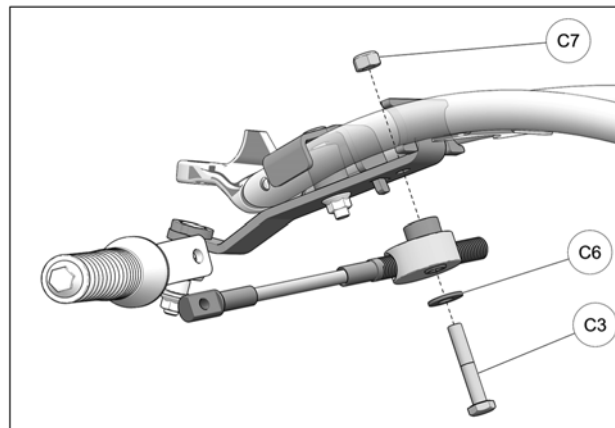

Fig. 19
12. Insert bolt (C3) w/ washer (C6) in steering limiter cable assembly and, from the bottom, insert bolt in the hole at the back of anchor bracket. Secure steering limiter assembly to anchor bracket using nut (C7). Tighten nut to 50 N•m [37 lb•ft]. Refer to Fig. 19